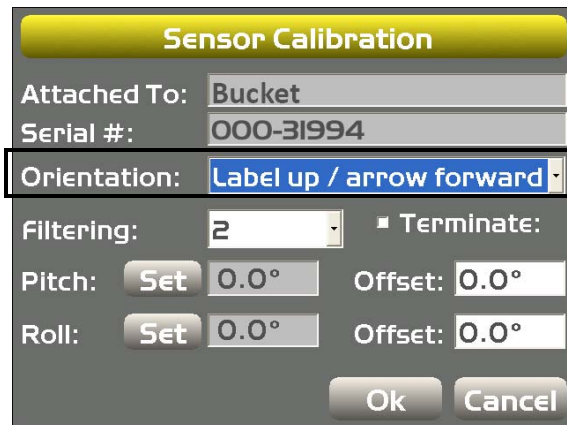

Figure 50: Select Tilt Sensor Orientation
8. Select the sensor’s **Orientation** based on this position (Figure 50). Note that TS-i3 sensor orientation is only left and right.